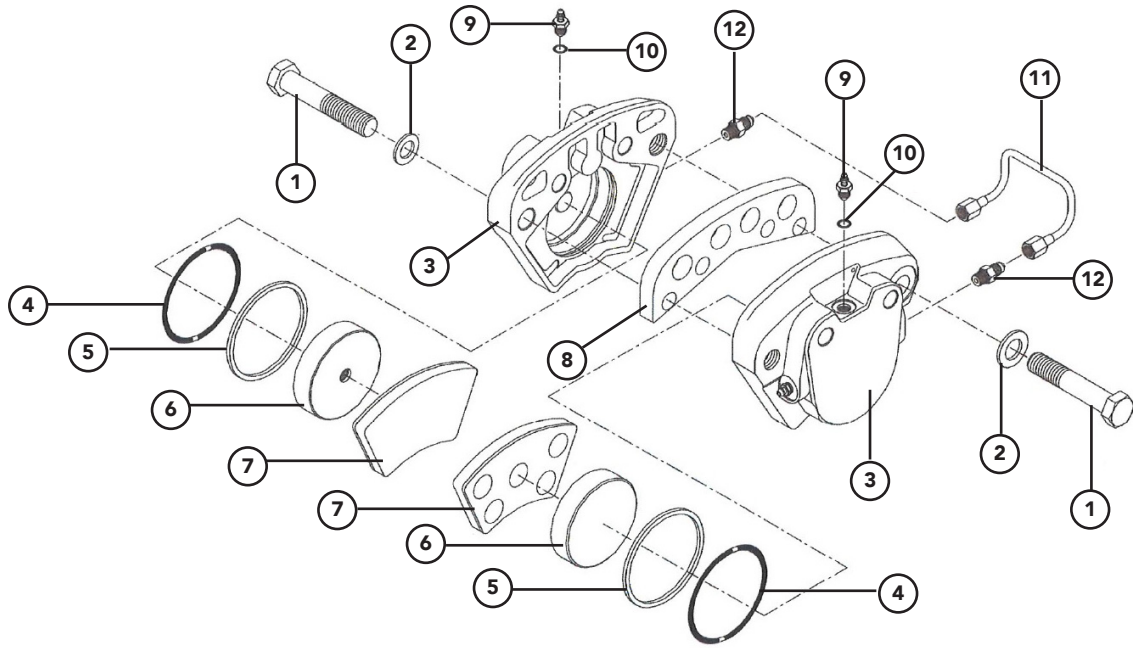

Figure 2
1. Refer to Figure 2. Remove brake from machine by disconnecting necessary fluid lines and removing mounting bolts. Drain fluid from brake assembly.
2. For some models it may not be necessary to separate housing halves, however, if you must separate housing (3) halves, remove cap screws (1), washers (2), tubing assembly (11), and spacer (8). Do not remove connectors (12). Use a bench vice.
3. Remove lining assemblies (7) from housings (3).
4. Gently press piston (6) back into housing (3) bore. Piston must bottom on housing to assure lining to disc clearance. Install new lining assembly (7) into housing pocket. Repeat process for remaining housing half.
5. Position spacer(s) (8) between housing (3) halves. Install cap screws (1) and washers (2). NOTE: Earlier models use nuts (13) and two additional washers (2) to be installed and tightened after cap screws (1) are torqued. See Figure 2. Determine size of cap screws (1), lubricate threads of cap screws (1), and evenly torque cap screws, not nuts (13), as follows: 5/8-18UNF 257.6-278.0 N·m (190-205 lb·ft). 3/4-16UNF 413.6-454.3 N·m (285-315 lb·ft).
6. Connect tubing assembly (11) and torque 12.2-20.3 N·m (9-15 lb·ft).
2. Separate housing (3) halves by removing cap screws (1), washers (2), tubing assembly (11), and spacer (8). Do not remove connectors (12). Use a bench vice.
3. Remove lining assembly (7) from housing (3).
4. Remove piston (6) from one housing (3) half by pulling piston from bore. If piston fails to move. Place housing half face down on bench. Protect piston face by placing cloth between piston and bench. Support housing half on bench in such a way that piston can be eased out of its bore. This is accomplished by carefully introducing low pressure air 0.7-1.0 bar (10-15 PSI) through fluid inlet fittings.
1. Refer to Figure 2. Clean housing bore with clean type fluid used in system
2. Install new o-ring (10) on bleeder screw (9). Install bleeder screw in housing (3) half and torque 12.2-20.3 N·m (9-15 lb·ft).
3. Install new o-ring (4) and new back-up ring (5) in groove of housing (3). Note the order of components. NOTE: Care must be taken so as not to scratch or mar housing bore.
4. Gently press piston (6) into housing (3) bore. Piston must bottom on housing to assure lining to disc clearance. Install lining assembly (7) into housing pocket. Note the order of components.
5. Repeat steps 1 through 4 for the second housing (3) half.